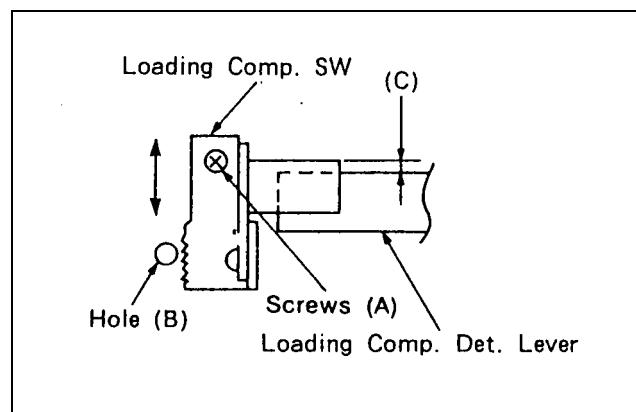

Figure 7-24-2 Loading Completion Switch
3. Loosen 2 screws (A) as shown in figure 7-24-2.
4. Insert fine adjustment driver (VFK 0446) into the hole (B) as shown in 7-24-2.
5. Turn fine adjustment driver so that the clearance (C) is $1.8 \pm 0.2\text{mm}$ as shown in figure 7-24-2.
6. Tighten 2 screws (A).